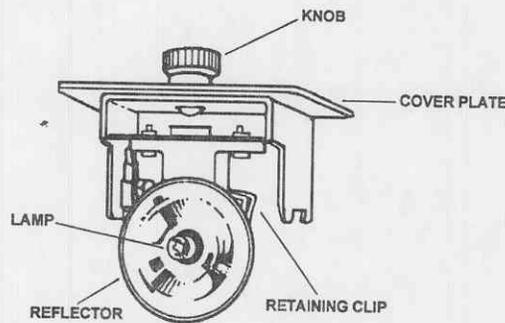

Figure 1-6. Lamp cartridge assembly.
e. *Lamp cartridge assembly (fig 1-6).* Each of the two active lamp cartridge assemblies is used to provide a source of light for transmission through fiberoptic cables to an endoscopic instrument. Two spare lamp cartridge assemblies are incorporated.